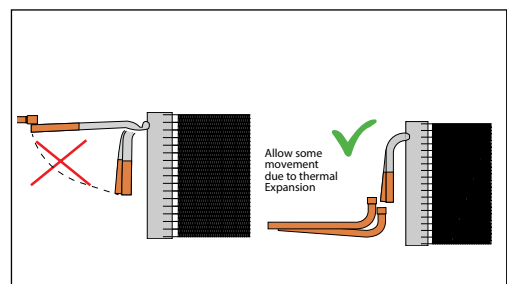

Fig.6 Inlet/Outlet connection attentions
- Inlet/outlet connections must be assembled & supported so that the brazed joints are not exposed to stress/tension. (Fig.6) Mating tubes should be pre-bent to avoid damaging or collapsing the MCHE's copper/aluminum inlet/outlet tubes and/or aluminum transition cups. Mating tubes should be configured so that no bending or forcing is required during installation.